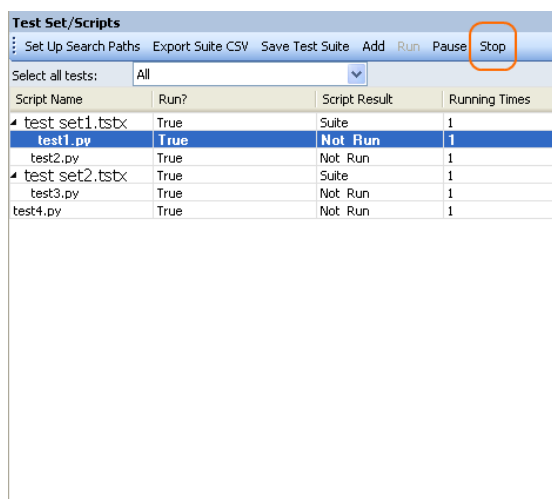

Figure 3-4. Stop Execution
- The Script can be terminated normally by ending the Script main program, or users can stop the Script by clicking on the Stop Execution button located in the Test Set/Script Area of the Script Server window as shown in Figure 3-4.